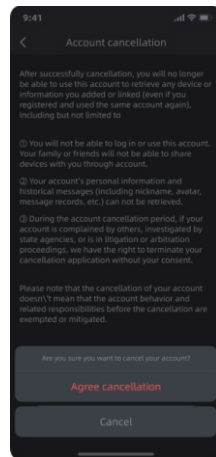

Figure 11
11) Figure 11: Click "**Agree cancelationl**" to cancel the account, return to the login page, and no longer be able to log in with this account;Click "**Cancel**" to keep the account.